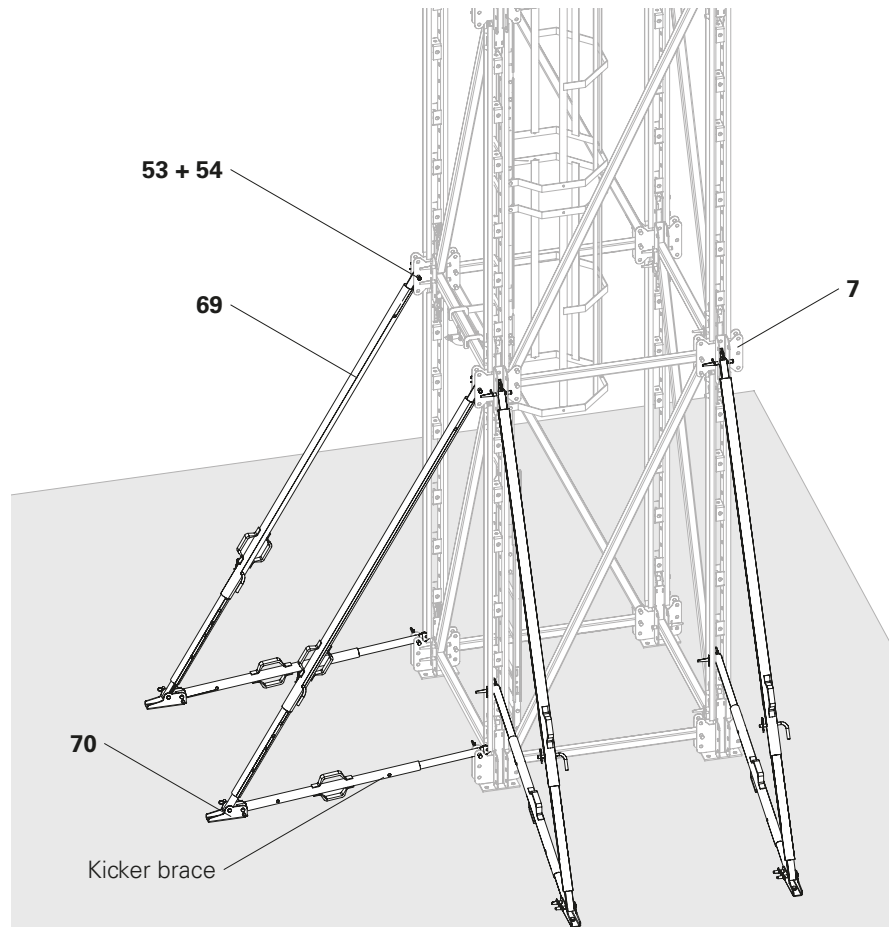
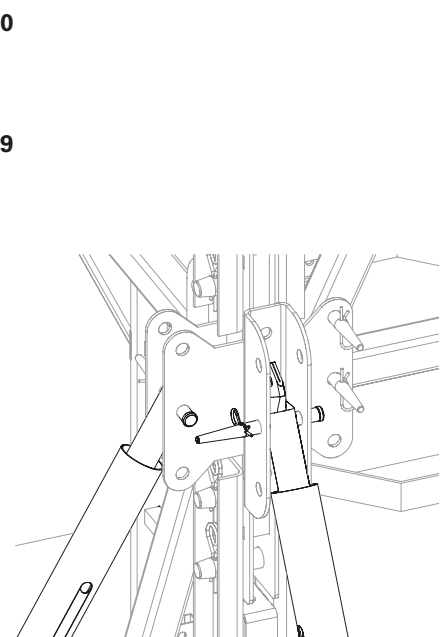

Fig. B1.04
Fig. B1.04b
3. Fix Push-Pull Prop RS (69) to the base plate for RS-3 (70) using fitting pins  $\varnothing$  21 (53) and secure with cotter pins 4/1 (54). (Fig. B1.04)
4. Fix Push-Pull Prop RS (69) to the vertical connector (7) using fitting pins  $\varnothing$  21 (53) and secure with cotter pins 4/1 (54). (Fig. B1.04 + Fig. B1.04b)